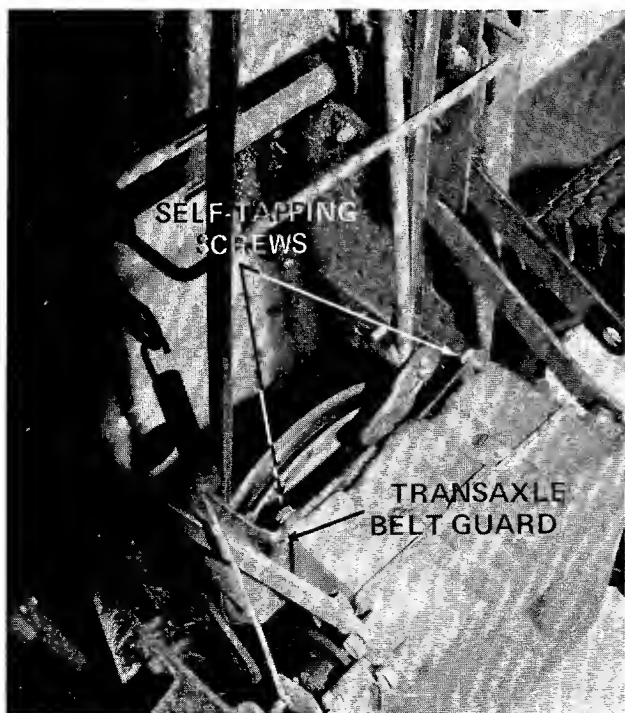

FIGURE 19.
3. Remove the transaxle belt guard by removing the two self-tapping screws. See figure 19.